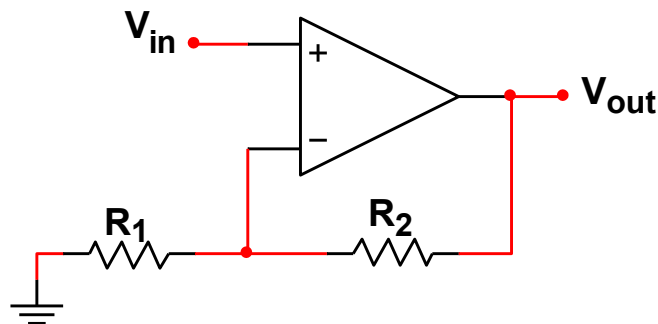

Figure P.2 – Non-Inverting Amplifier
1. Using **Table 1** and **Figure P.2**, design a **DC Non-Inverting Amplifier** that has the following specifications:
- **Closed Loop Voltage Gain (K) = 10**